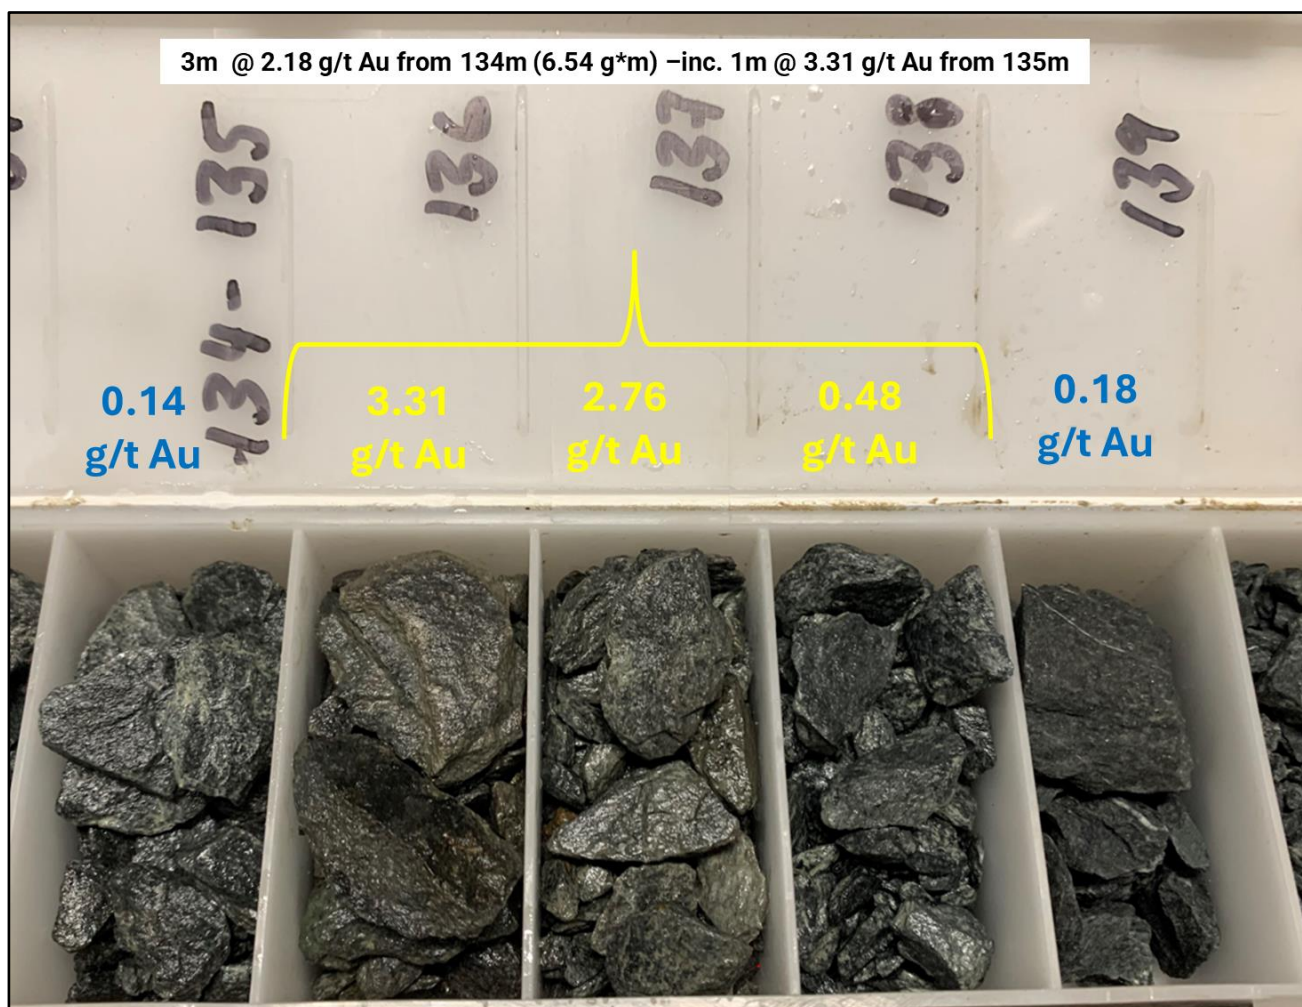

Figure 4: SRRC027 - Mineralised interval from 135m to 138m.
- SRRC027: 3 metres @ 2.18 g/t Au from 134m (6.54 g*m)¹ (See Figure 4)**